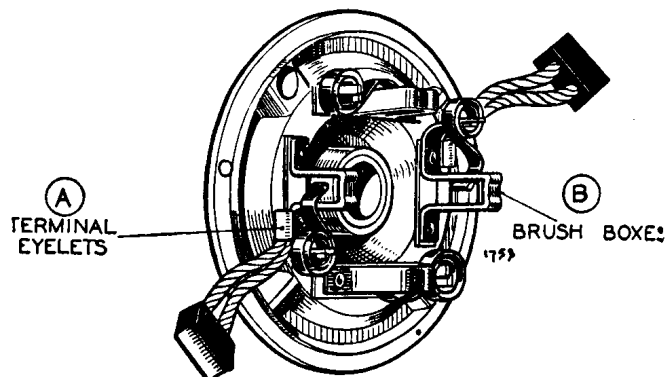
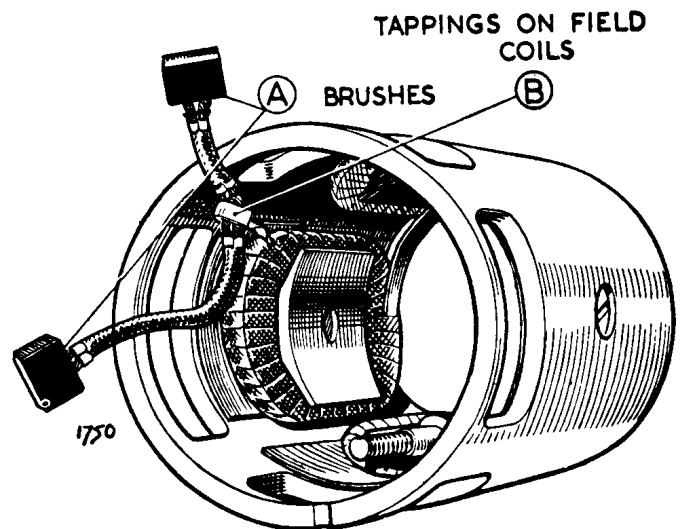

Fig. N.10
Fig. N.11
- (1) Test the brush springs with a spring scale. The correct tension is 30 to 40 oz. (850 to 1134 grams). Fit a new spring if the tension is low.
- (2) If the brushes are worn so that they no longer bear on the commutator, or if the flexible connector has become exposed on the running face, they must be renewed. Two of the brushes are connected to terminal eyelets (A) (Fig. N.10) attached to the brush boxes (B) on the commutator end bracket and two (A) (Fig. N.11) are connected to a tapping (B) on the field coils.